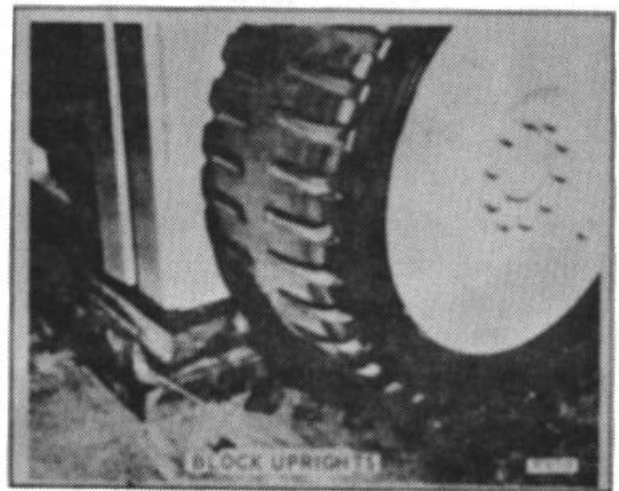

Figure 2.
also have an "inching pedal". (Fig. 2) Depressing the inching pedal disengages the transmission and at the proper time applies the brake. There is a definite operating
1. Tilt the uprights back and place several 2 x 6 blocks under each outer upright. Then tilt the uprights forward until the forward drive wheels are off the ground. (Fig. 2)